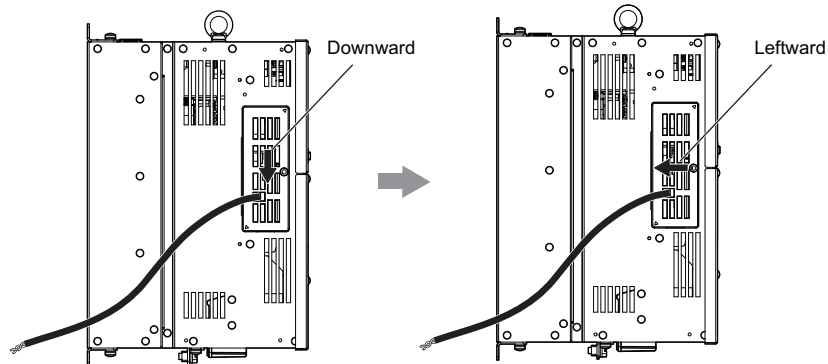

Figure 71 Sliding the CN19 Connector Cover into Place
6. Slide the CN19 connector cover back into place as shown in Figure 71.